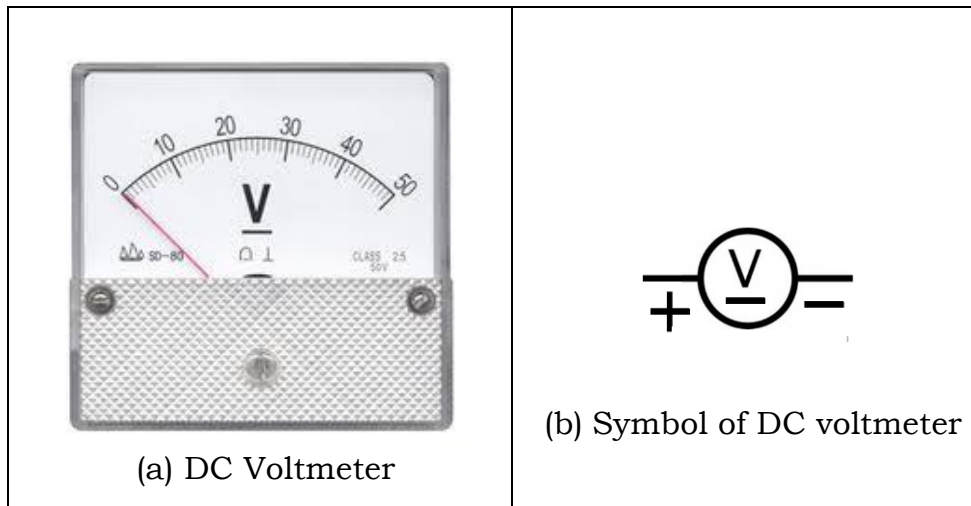

Fig. 3.2
**DC Voltmeter:** DC Voltmeter is used to measure DC voltage. A typical DC voltmeter and its symbols are shown in fig. 3.2 (a) and (b) respectively.